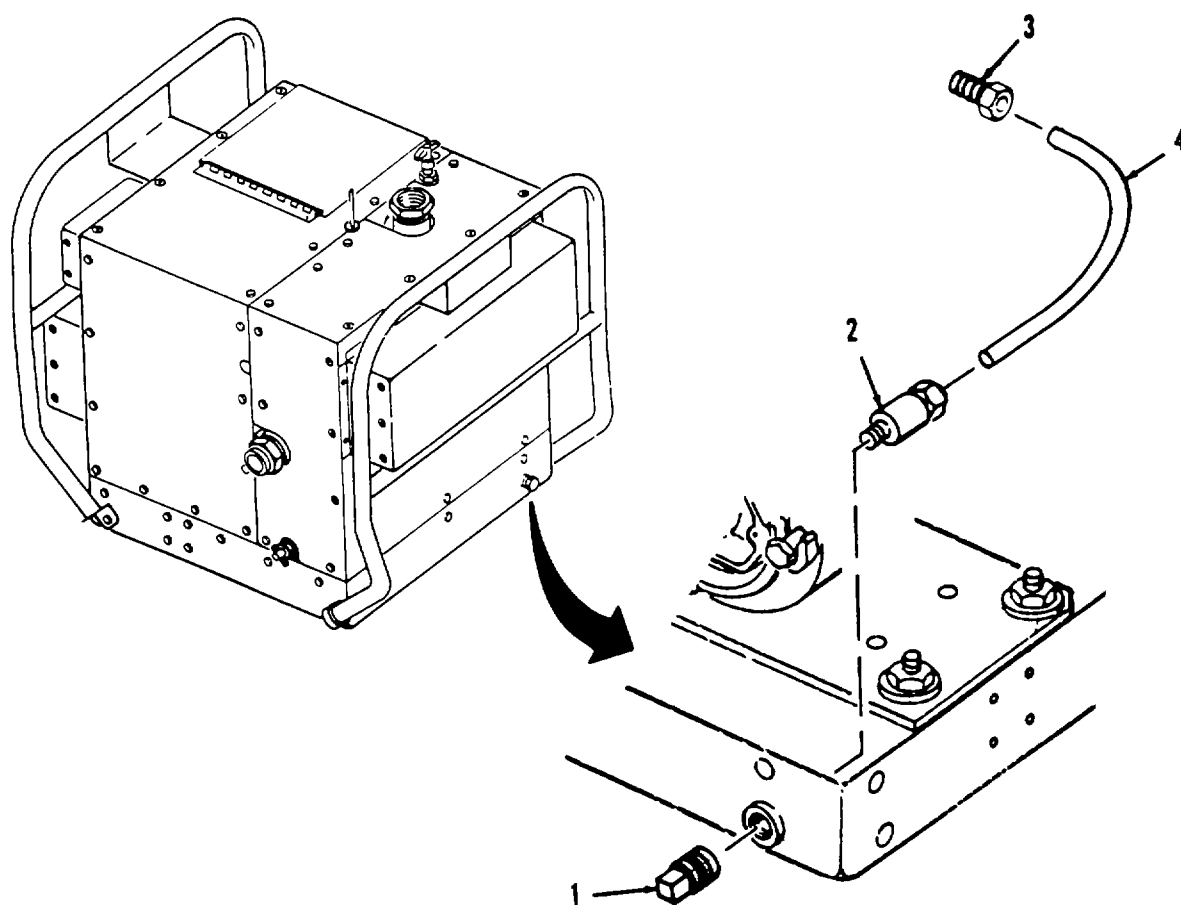

Figure 4-9. Oil Drain Repair and Replacement.
a. Removal. (Refer to Figure 4-9).
- (1) Remove plug (1) from hose fitting (2).
- (2) Remove hose fitting (3) from engine.
- (3) Remove hose fitting (2) and hose fitting (3) from hose (4).